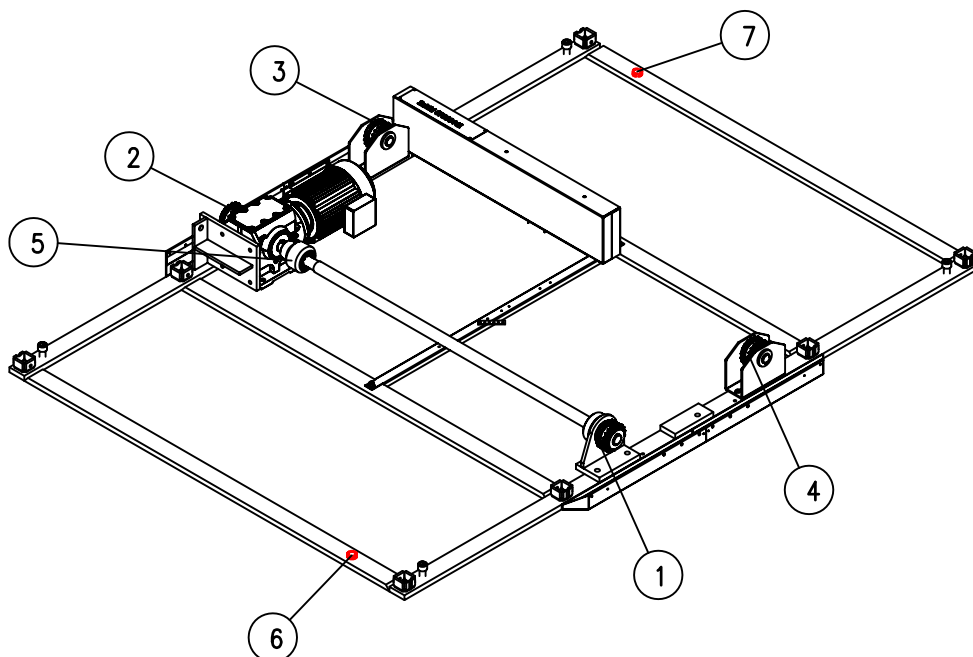

Fig. 1: Overview of vertical drive for left service door
For the right service door (refer to item 7), the drive is on the right side as viewed from the front of the lift. The drive and guide side designations correspond to Fig. 1.